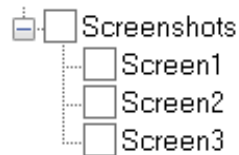

Figure 11.3-4 - Example of a List of User-Generated Screens
- **Program/User Generated Reports.** Any screens captured by you during data generation and execution will all be listed in the RGM for your view and possible inclusion in the finished report. **Figure 11.3-4** shows an example for a list containing three user-generated screens from the program.